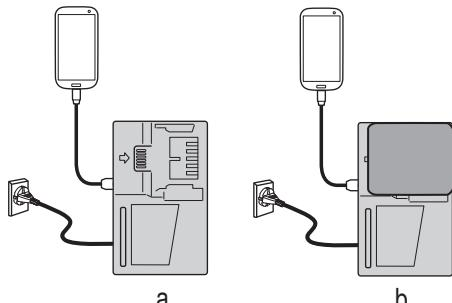

Fig. 36
- Charging a USB device from a electrical outlet (**Fig. 36-a**).
- Charging a USB device and battery from a electrical outlet. (**Fig. 36-b**)